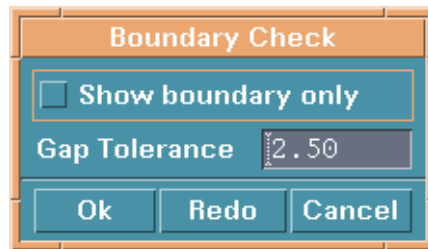

Figure 6.3.6 Boundary Check
- After building the topological structures, the BOUNDARY CHECK window is displayed. Please the Figure 6.3.6.